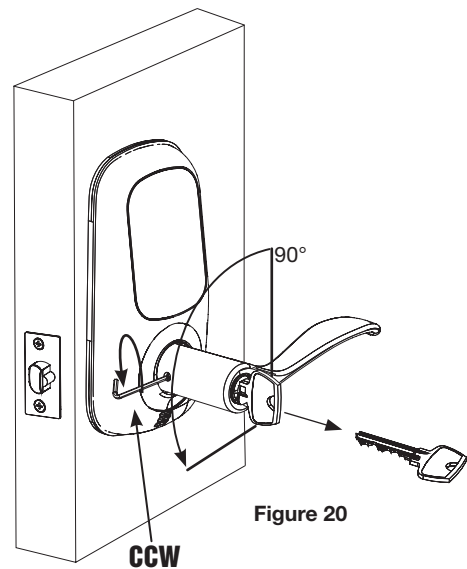

Figure 20
15. Secure lever handle by inserting hex key (Fig. 20) and rotating set screw **counter-clockwise (CCW)**.
Pull to remove key (Fig. 20) and test operation of lever, ensuring that latch moves smoothly.